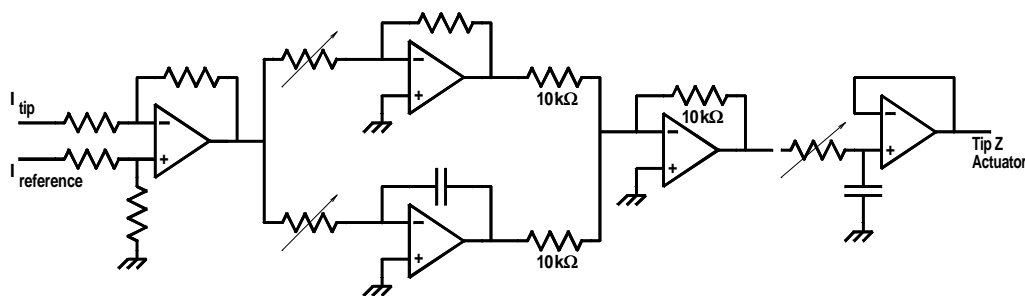

Figure 47.3: STM scanning tip height servo control circuit.
- 47.4 The circuit shown in Figure 47.3 is used to move the scanning tip up and down as it scans the surface in the scanning tunnelling microscope manufactured by Burleigh Instruments. The input signal is the tip tunnelling current. The output signal drives the tip in the z direction. Explain the function of each of the circuit blocks.